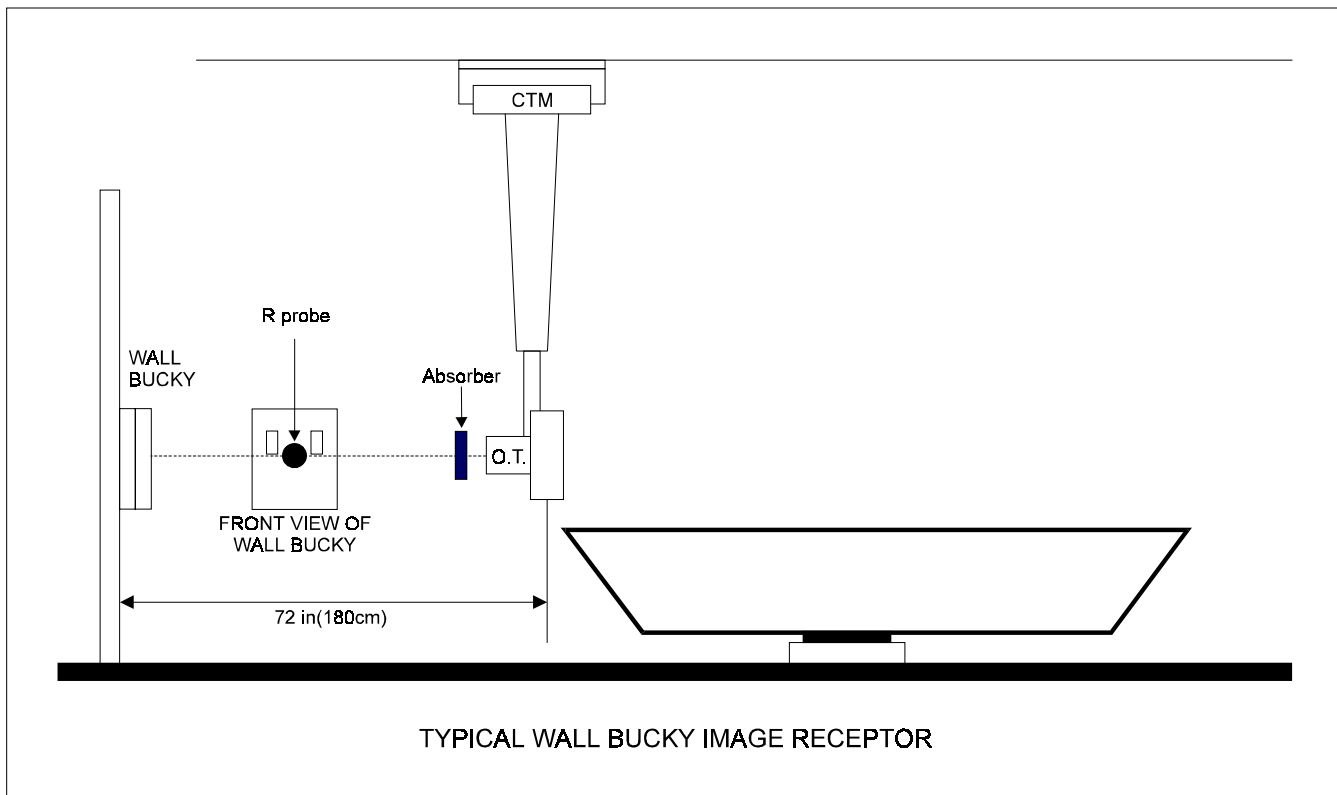

Figure 3D-15: Equipment setup for wall bucky AEC calibration
1.	Set up the X-ray tube stand as shown in figure 3D-15.